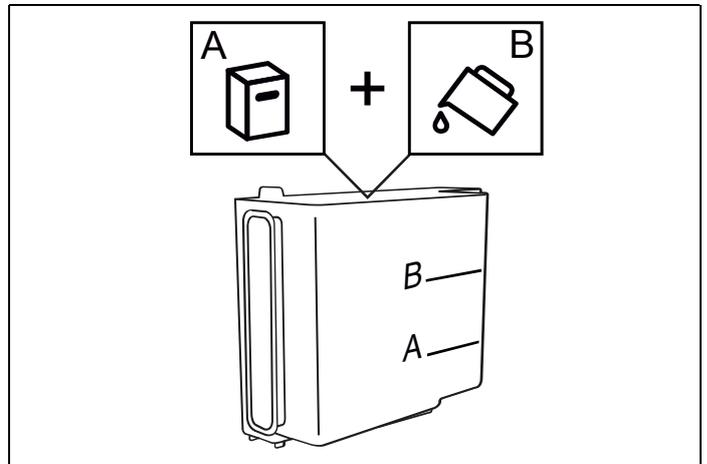

Fig. 56
- **Add descaler (up to level A)** (Fig. 56) ; Pour the de-scaler into the tank up to the level A marked inside the tank (equal to one 100 ml pack); then add water (one litre) up to level B; and put the water tank back in. Press  **NEXT**;